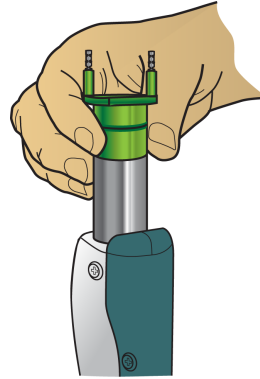

Figure 3-2: Insert Lens Cartridge into Handpiece Assembly
2. Align the flat on the Lens Cartridge with the flat protrusion on the Handpiece Assembly (see **Figure 3-2**) and then gently push the Lens Cartridge into place.